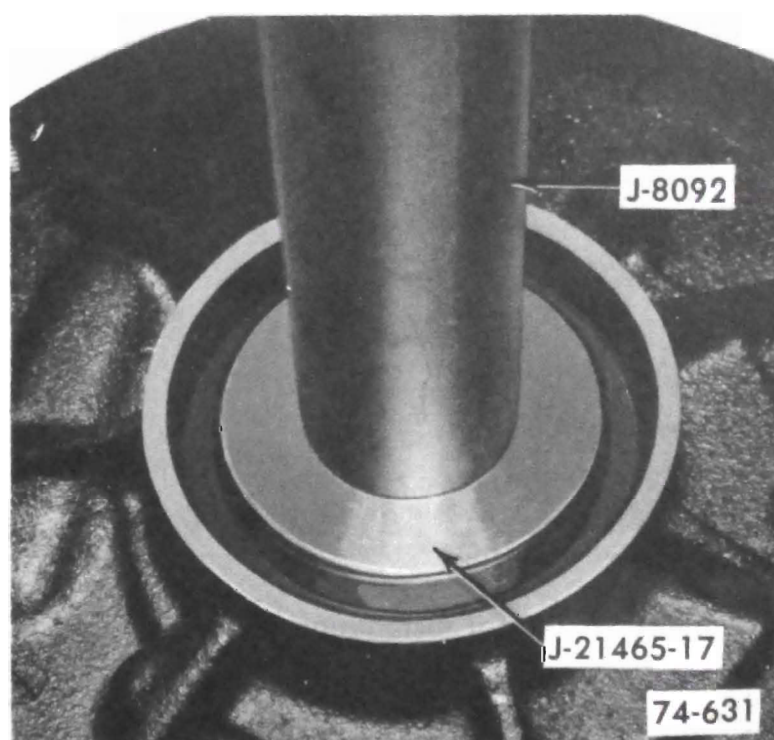

Figure 76-164
a. Support oil pump on wood blocks. Using Tool J-21465-17 and Drive Handle J-8092 press bushing out of oil pump body. See Figure 76-164.